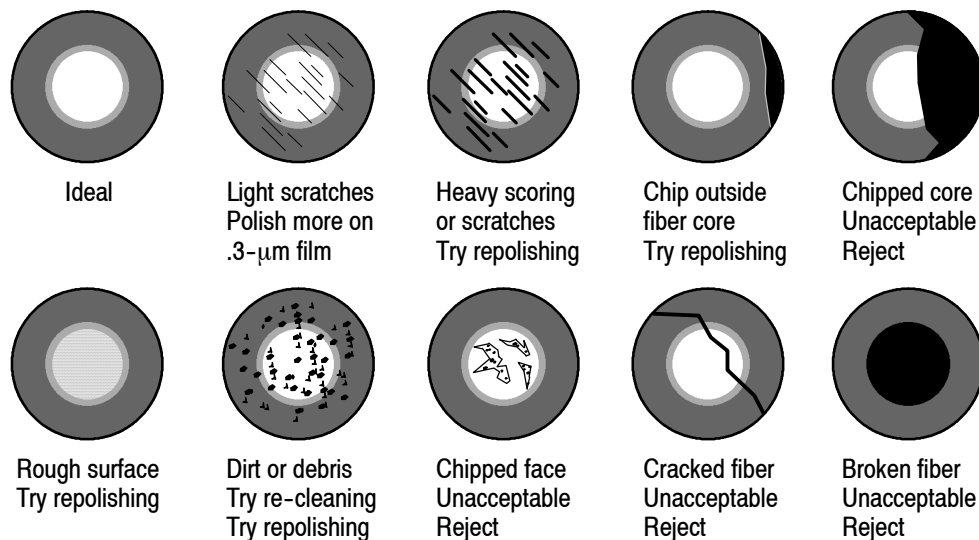

Figure 20
For stainless steel ferrule connectors, remove the circular machine marks on the ferrule tip (from the edge toward the center) until a circle between 0.5 and 0.7 mm [.020 and .028 in.] (still visible) of machine marks remains. This will leave the fiber protruding slightly from the ferrule face as recommended for optimum performance (refer to Figure 20). Other relevant criteria for inspecting the fiber described in Section 6 prevail.
**6. INSPECTING THE FIBER** (See Figure 20)
2. Inspect the connector with the microscope. If possible, place the far end of the fiber near a bright light. Compare the fiber end to Figure 20, and take any recommended action.